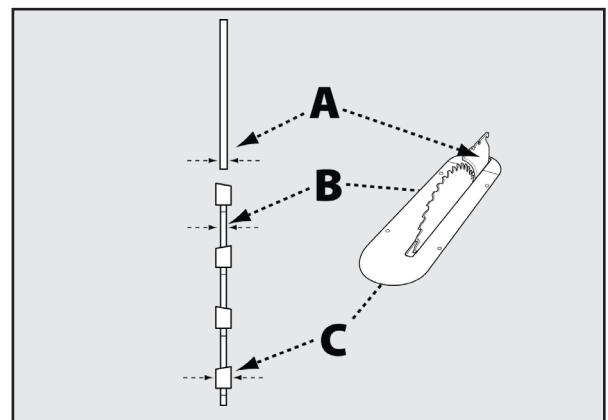

FIGURE 22
**NOTE:** Safety devices, blade guard assembly and anti-kickback assembly have been removed in Figure 22 in order to show the location of specific features. When operating the saw, these safety devices should be in place and working properly.
The riving knife thickness (A) must be greater than the blade body or plate thickness (B) and less than the kerf or cutting width (C) as shown in Figure 22. The riving knife provided with this saw is 2.2mm thick and may be used only with a 10-inch (254mm) blade with 0.102-inch (2.6mm) minimum kerf width and 0.073-inch (1.8mm) maximum body thickness. Do not attempt to use this riving knife with blades that are not within these dimensions.